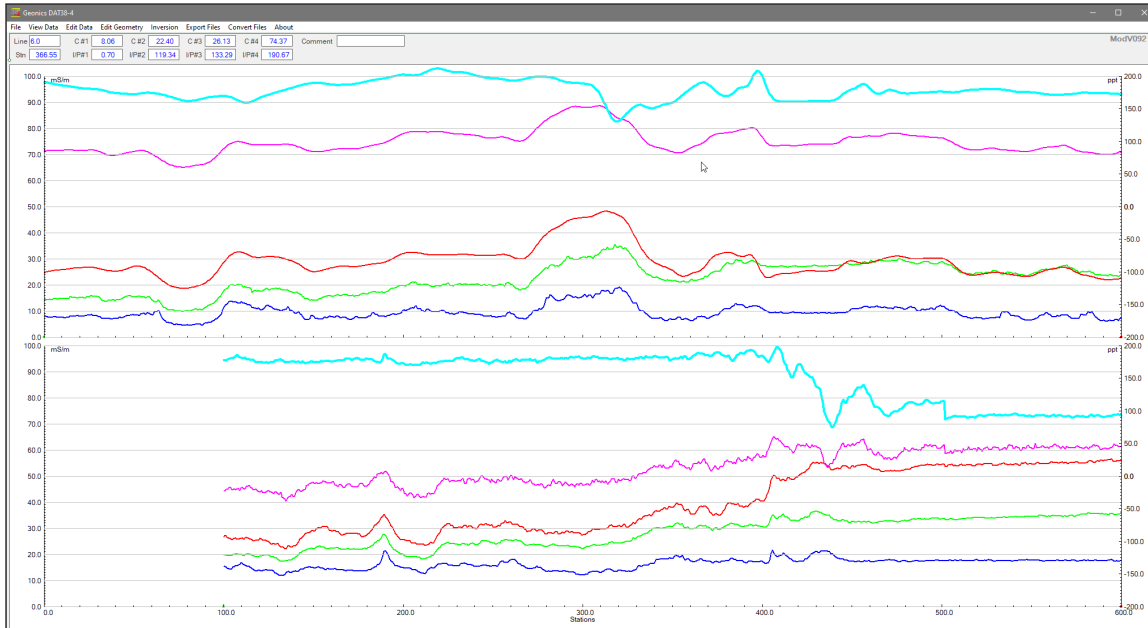

Figure 4.10 DAT38-4 screen with some profiles smoothed (compare with Figure 4.6)
- The final display with smoothed profiles is shown in Figure 4.10 (compare with Figures 4.6 and 4.9).